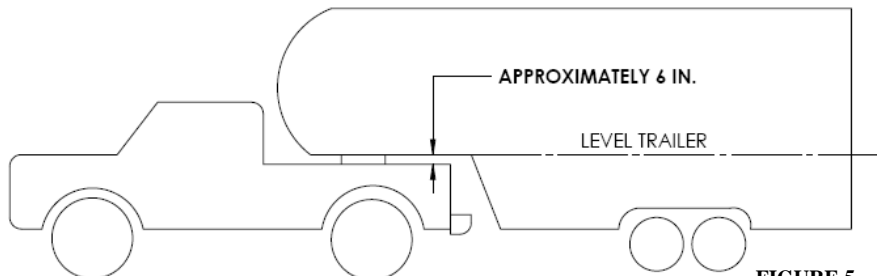

FIGURE 5
1. The Height of the hitch and pin box should be adjusted so the trailer is approximately level as it is towed. Allow approximately 6 in. clearance between the top of the bed and the underside of the front of the trailer for pitch and yaw of the trailer (See Figure 5). For off-road use allow more clearance between pickup walls and trailer.